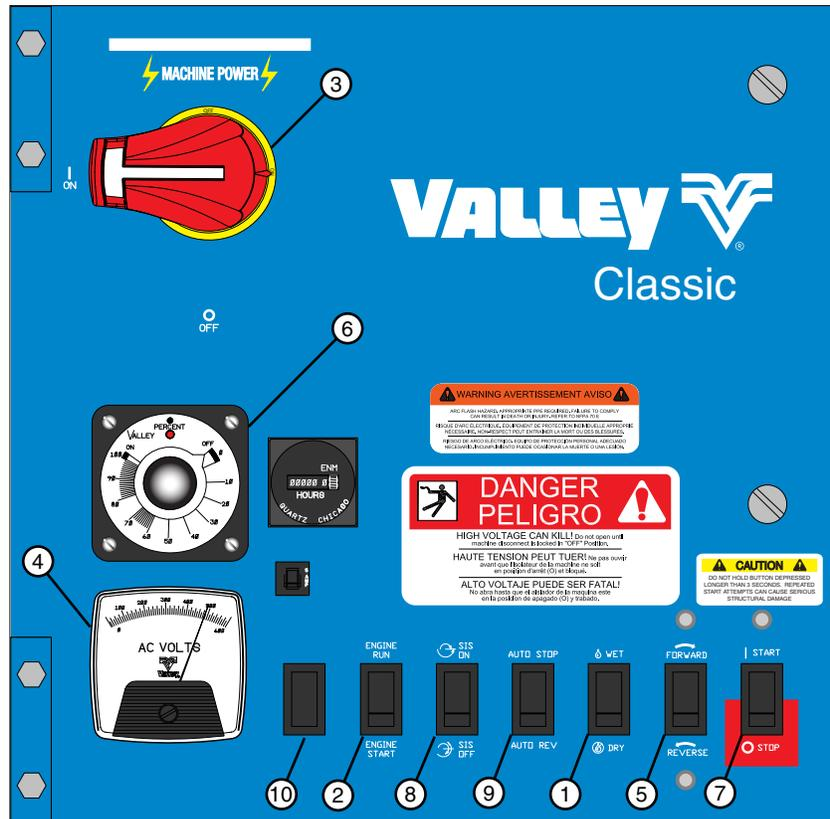

Figure 27-1 1. Wet/Dry Switch
2. Place the WET/DRY switch in the DRY position to by-pass the low pressure switch. See Figure 27-1.
3. If an optional engine shut-down circuit is utilized, place the Engine RUN/START switch in the START position. See Figure 27-1.
8. Turn the control panel main disconnect switch to the ON position. See Figure 27-1.
9. If the power is supplied by an engine driven generator, adjust the RPM of the generator until the voltmeter reads 460 – 505 volts. DO NOT EXCEED 505 VOLTS. See Figure 27-1.
10. Place the WET/DRY switch in the WET position. See Figure 27-1.
11. Place the FORWARD/REVERSE switch in either the FORWARD or REVERSE position. See Figure 27-1.
12. Set the percent timer to the desired speed setting. See Figure 27-1.
13. Press and hold the START/STOP switch in the START position for 3 seconds and release. The machine should start. See Figure 27-1.
14. Place the Engine RUN/START switch in the RUN position. See Figure 27-1.
15. If the machine is equipped with the optional stop-in-slot mechanism, place the SIS ON/OFF switch in the desired position. See Figure 27-1.
16. If the machine is equipped with auto reverse/auto stop, place the AUTO REVERSE/AUTO STOP switch in the desired position. See Figure 27-1.
17. If the machine is equipped with the optional Auxiliary ON/OFF switch to control an operation or device, place the Auxiliary ON/OFF switch in the desired position. See Figure 27-1.